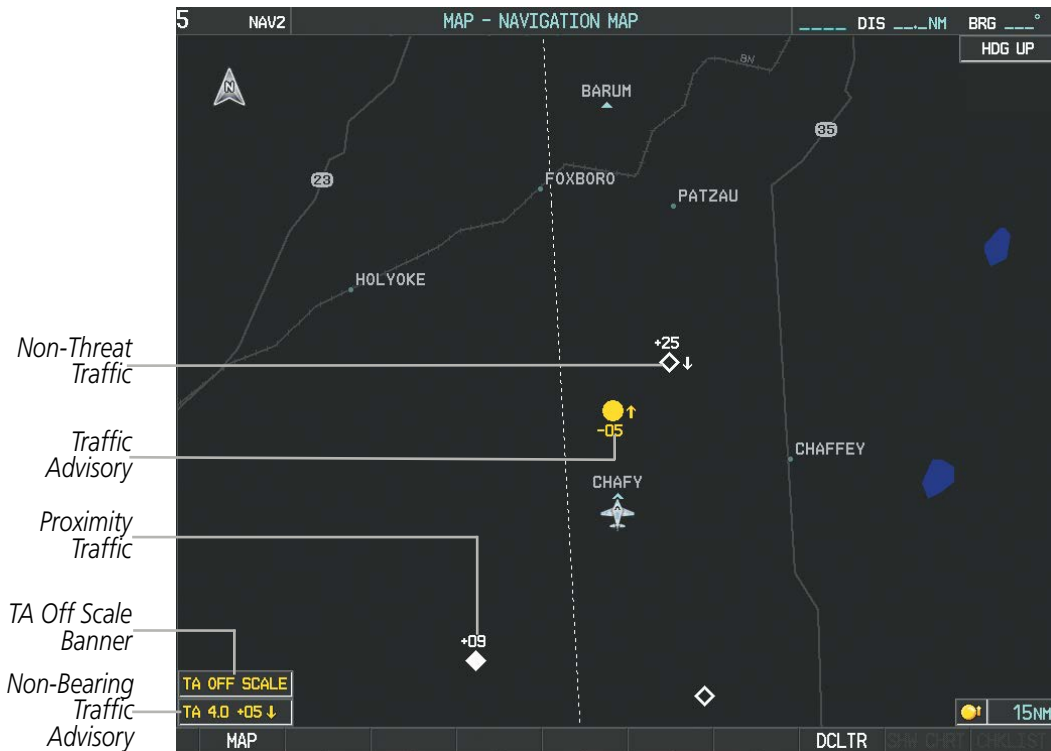

Figure 6-177 TAS Traffic on Navigation Map
- 2) Select the **TRAFFIC** Softkey. Traffic is now displayed on the map as shown in Figure 6-177.